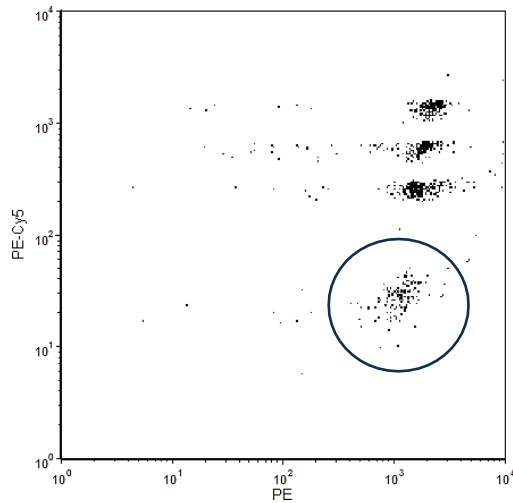

Figure 4
3) Apply proper “PE-Cy5” - %PE color compensation so that the bead populations are in a horizontal position (Figure 4: small blue circle is an example of proper color compensation setting).